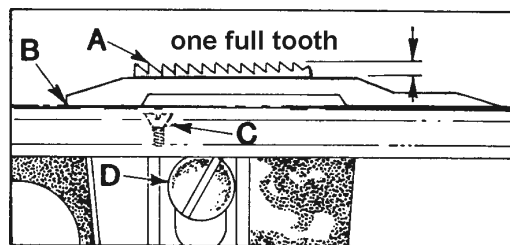

Fig. 10
Feed dog (A, Fig. 10) should be centered in throat plate (B) with equal clearance on all sides and ends with feed travel set to desired stitch length. At highest point of travel, tips of feed dog teeth should extend the depth of one full tooth + $1/32$ inch, above throat plate and parallel to same. Loosen screw (D), which secures feed dog in position, and adjust screw (C) up or down to support feed dog. Retighten screw (D).